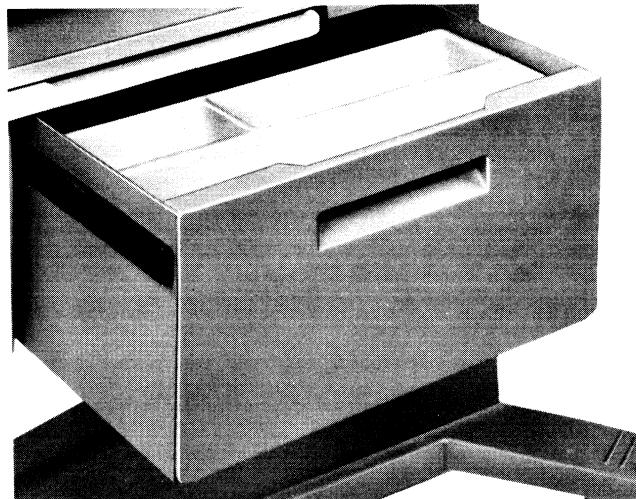

FIGURE 2.6 CHECKING THE PASS-THROUGH DRAWER
4. **CHECK THE PASS-THROUGH DRAWER** (Figure 2.6) by sliding the drawer in and out on both sides of the Bassinet. Return to the center position.